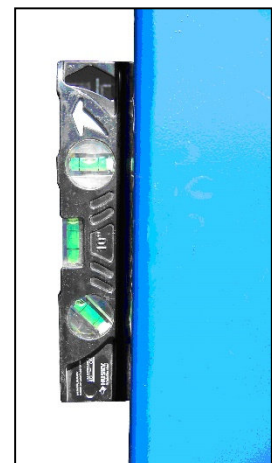

Fig. 5
6. Using a level, check column plumb for every side (Fig. 5). If shimming is required, use supplied Shim stock or 3/4" washers, placing shims as close as possible to the hole locations. This will prevent bending column bases.